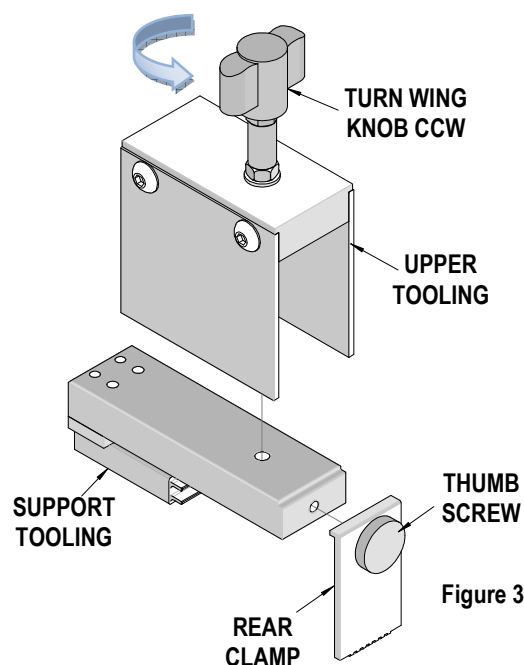

Figure 3
2. Remove the rear clamp by turning the thumb screw counterclockwise (CCW). See Figure 3.